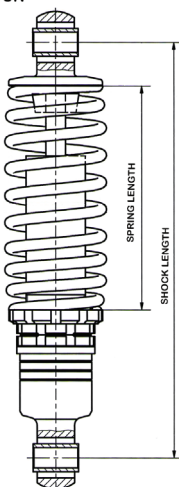

Figure 1. Lower shock with locking ring loosened for adjusting shock length.
1. Loosen the locking ring on the bottom of the shock absorber body. See Figure 1.